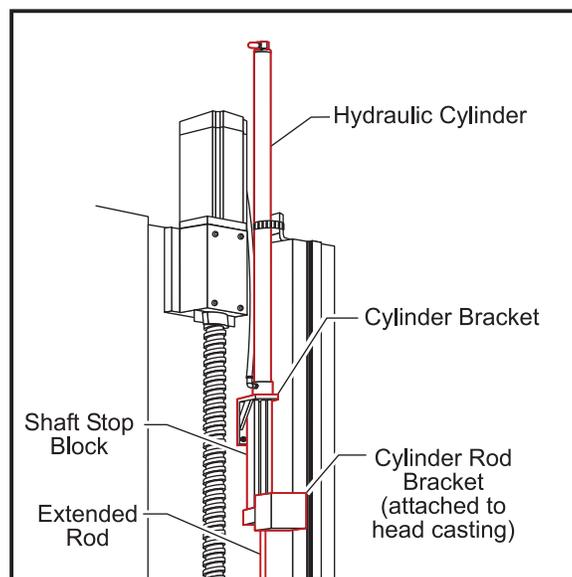

Figure 3.8-6 Z-axis motor and components for machines equipped with hydraulic counterbalance.
5. **a.** If the machine is equipped with a hydraulic counterbalance, install cylinder shaft stop (See Fig. 3.8-6). HANDLE JOG Z-axis up until shaft stop blocks axis.